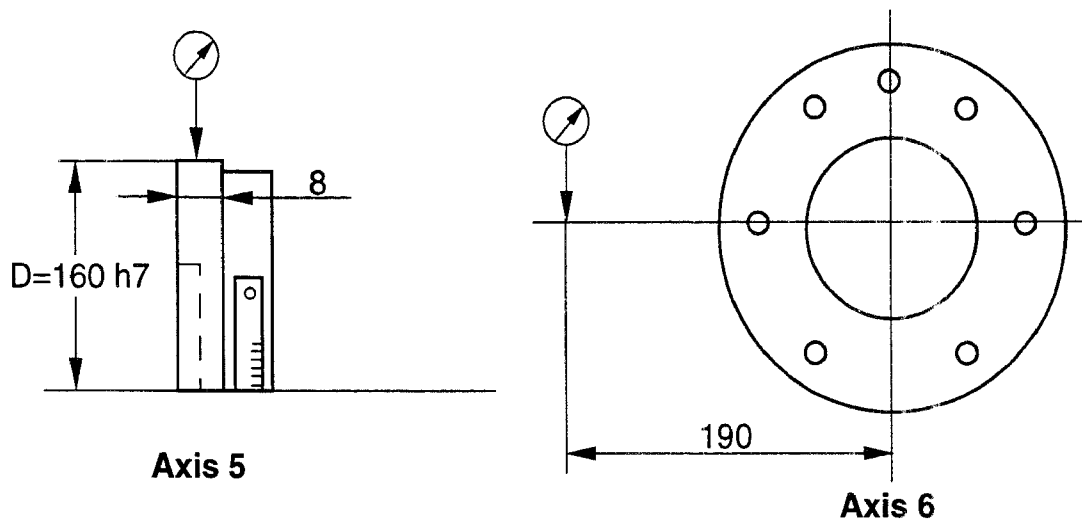

Figure 5 How to measure the play in the wrist.
3. Fix a PEK dial indicator with a magnetic foot on the fixing plate. Measure against the front part of the turning disc, at D=160 mm, B= 8 mm. See Figure 5.
2. Measure with a PEK dial indicator against the tool. See Figure 5.